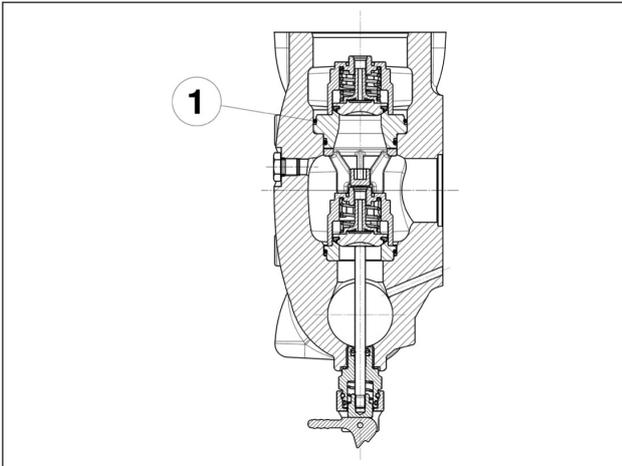

Fig. 128
**Pay special attention to O-ring insertion indicated in pos. ①, Fig. 128. Use a special tool code 27516000 (for LK36-LK40-LK45) or code 27516100 (for LK50-LK55-LK60) to prevent the O-ring getting cut during insertion.**